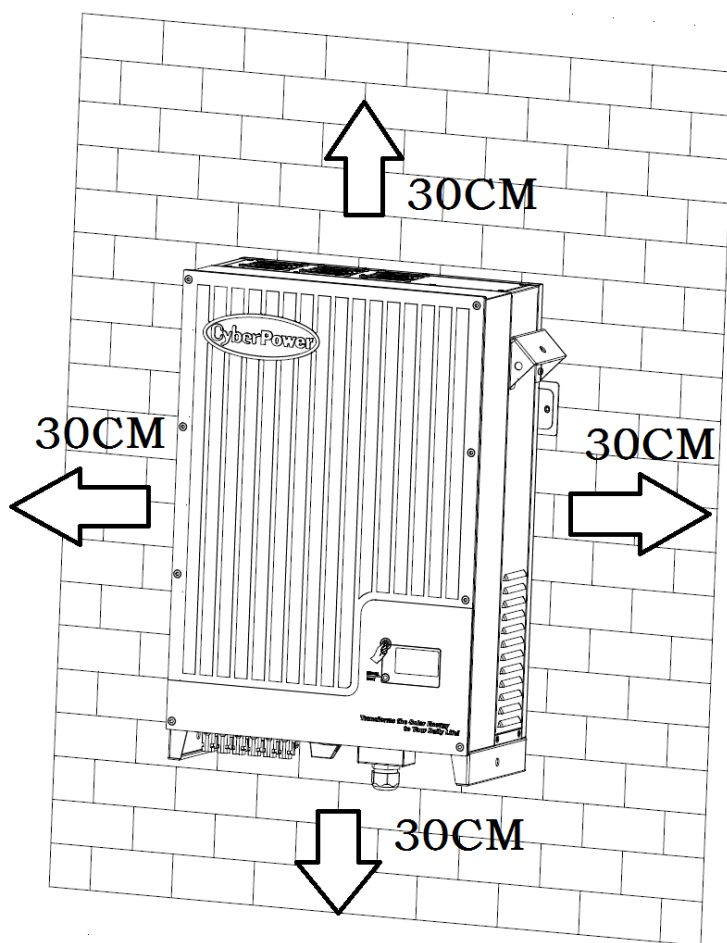

Fig 5.2
- 2) The location selected must be suitable for inverters' dimension. (Refer to 3.3 Dimensions and Fig.5.2 Required Clearances)
- 11) Notice the minimum clearances of the inverter. (Refer to 3.3 Dimensions and Fig.5.2 Required Clearances).